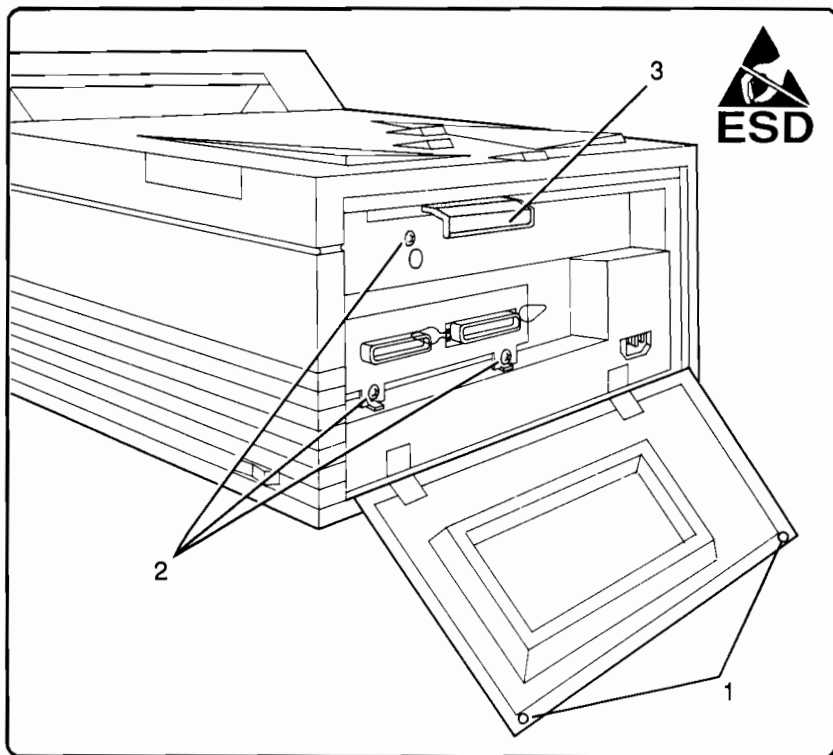

Figure 6-3. Dual I/O Interface Assembly Removal
1. Open the Rear Cover by loosening the captive screws (2) and swinging downward (see Figure 6-3, callout 1).
2. Remove the screws (3) securing the Dual I/O Interface PCA to the printer (see Figure 6-3, callout 2).
3. Grasp the Dual I/O Interface Assembly by its handle and pull it straight out the back to remove it from the printer (see Figure 6-3, callout 3).
1. Remove the Dual I/O Interface Assembly (see Figure 6-3).